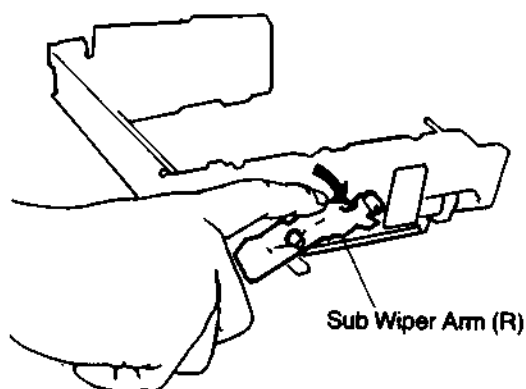

Fig. 4-20
4. Slide the cassette holder (with wiper arm (R), see Fig. 4-20) just a little so that the second tooth of rack A (1) gear (located on the bottom side of cassette compartment) comes to center of the rectangular hole as shown in Fig. 4-16
5. Press the sub wiper arm (R) to direction indicated by the arrow as shown in Fig. 4-20 so that the sub wiper arm (R) comes to cassette down position completely and hold this position.